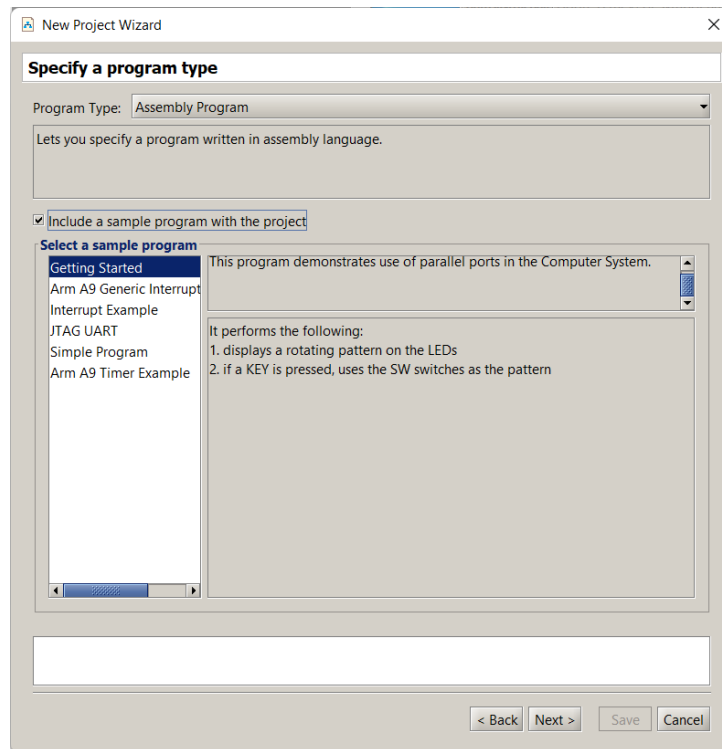

Figure 4: Selection of an application program.
4. In the window in Figure 4 you can specify the type of application programs that you wish to run. They can be written in either assembly language or the C programming language. Specify that an assembly language program will be used. The *Monitor Program* package contains several sample programs. Select the box **Include a sample program with the project**. Then, choose the **Getting Started** program, as indicated in the figure, and click **Next**.
1. Create a new folder for this part of the exercise, with a name such as *Part3*. Create a file named *part3.s* and enter the code from Figure 9 into this file. Use the Monitor Program to create a new project in this folder; we have chosen the project name *part3*. When you reach the window in Figure 4 choose **Assembly Program** but do not select a sample program. Click **Next**.